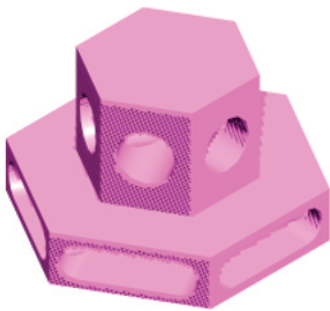

Fig. 17.37 Exercise 2 – a rendering
- Construct a 3D model of the stand. When completed add suitable lighting to the scene. Then add a material to the model and render (Fig. 17.37).